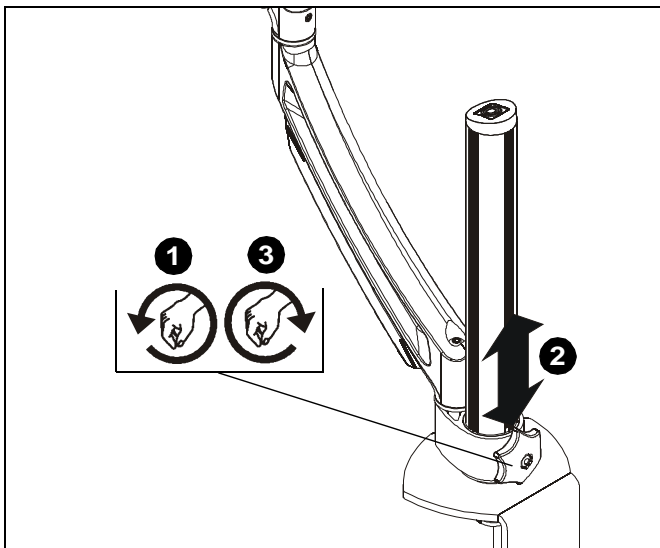

Figure 18
1. Loosen column adjustment knob. (See Figure 18)
2. Adjust height to desired level. (See Figure 18)
3. Tighten column adjustment knob. (See Figure 18)